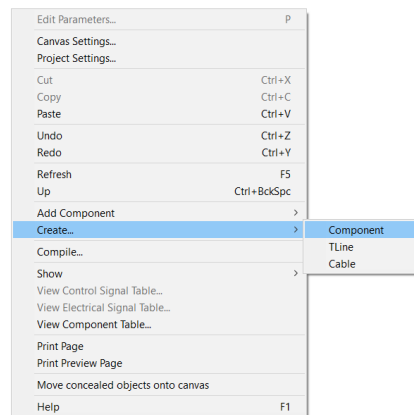

Fig.1. Open the component wizard.
Step 1: Open the component wizard. Right-click the canvas, highlight “*Create...*”, then left-click the “*Component*” on the pop-up page as illustrated in Fig.1. The *component wizard* pane will show up on the right side of the workspace window.